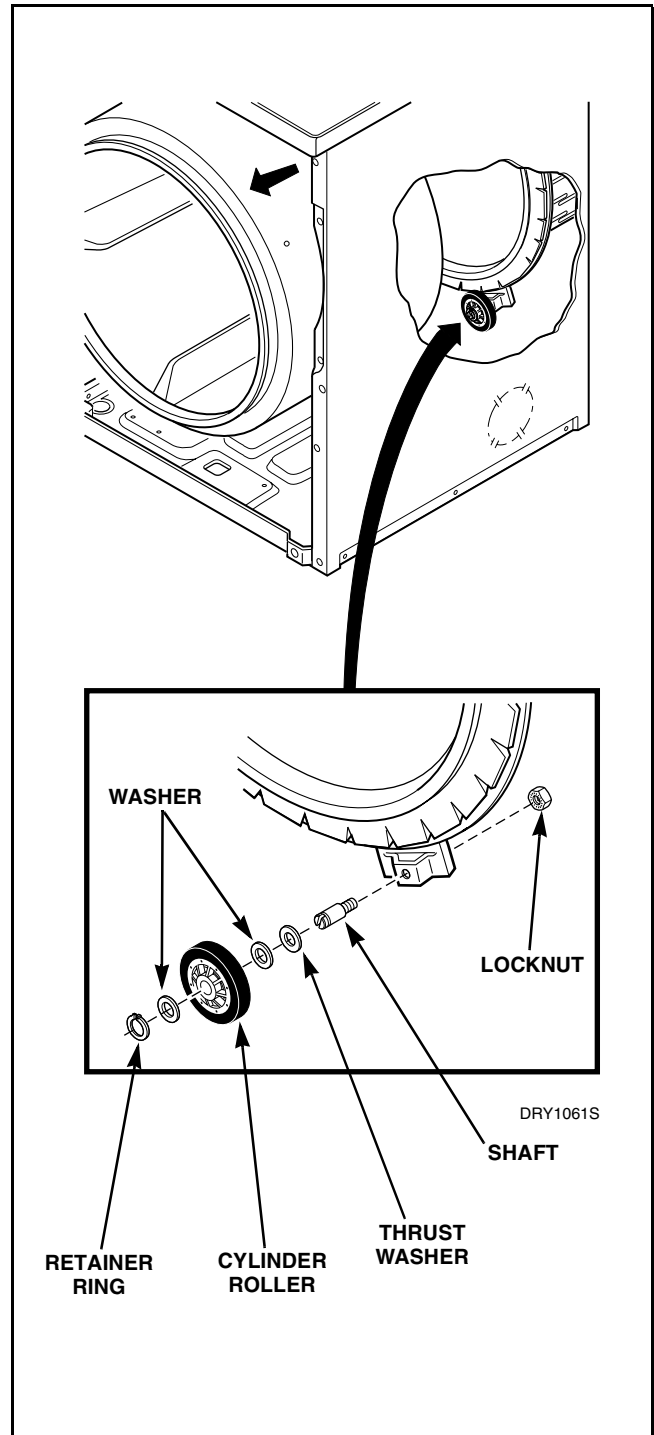

Figure 33
- Pull cylinder forward, allowing rear of cylinder to drop down, exposing rollers. Refer to *Figure 33*.
- Refer to *Figure 33* for removal of roller from roller shaft.